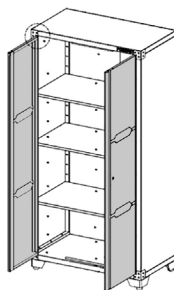
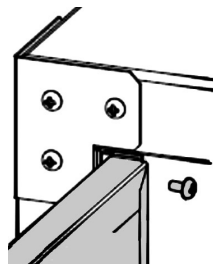

Figure 9.
Figure 10.
9. Install the front doors (Fig. 9). Hold the hinge of the left front door (#16) against the left side doorframe. Align the bolt holes and insert an M4 x 10 screw (#8). Repeat with remaining hinge openings (Fig. 10).